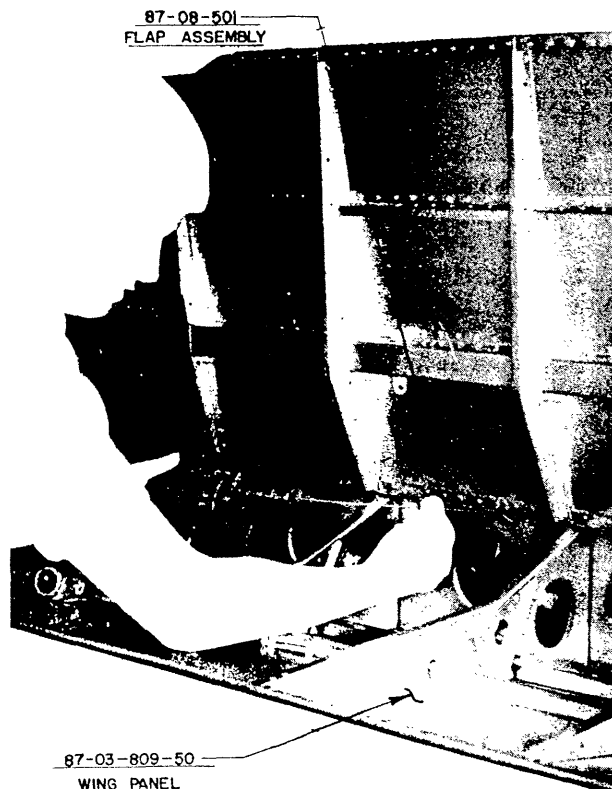

Figure 41 - Wing Flap Hinge Pin Installation
(c) To Remove the Wing Flaps. - Disconnect the flap position indicator linkage from the flap. This indicator transmitter is located in the left-hand panel, inside the wing, near the leading edge of the flap. Remove all bolts which connect the flap control turnbuckles to the flap. Then withdraw the two continuous hinge pins by pulling steadily on the hinge pin loops located near the spanwise center of the flap. (See figure 41.)
(6) To Install the Wing Flaps. - Interlock the flap hinge and hold the flap in position while inserting the hinge pins. The loop ends of the hinge pin may be clamped in the chuck of a low r.p.m. portable electric drill; lubricate the hinge pin with engine oil, grade 77, and use the rotating motion of the drill to aid in feeding the hinge pin through the hinges. (See figure 41.)
(7) To Adjust the Flap Position Indicator Mechanism. - Follow the method outlined for the landing